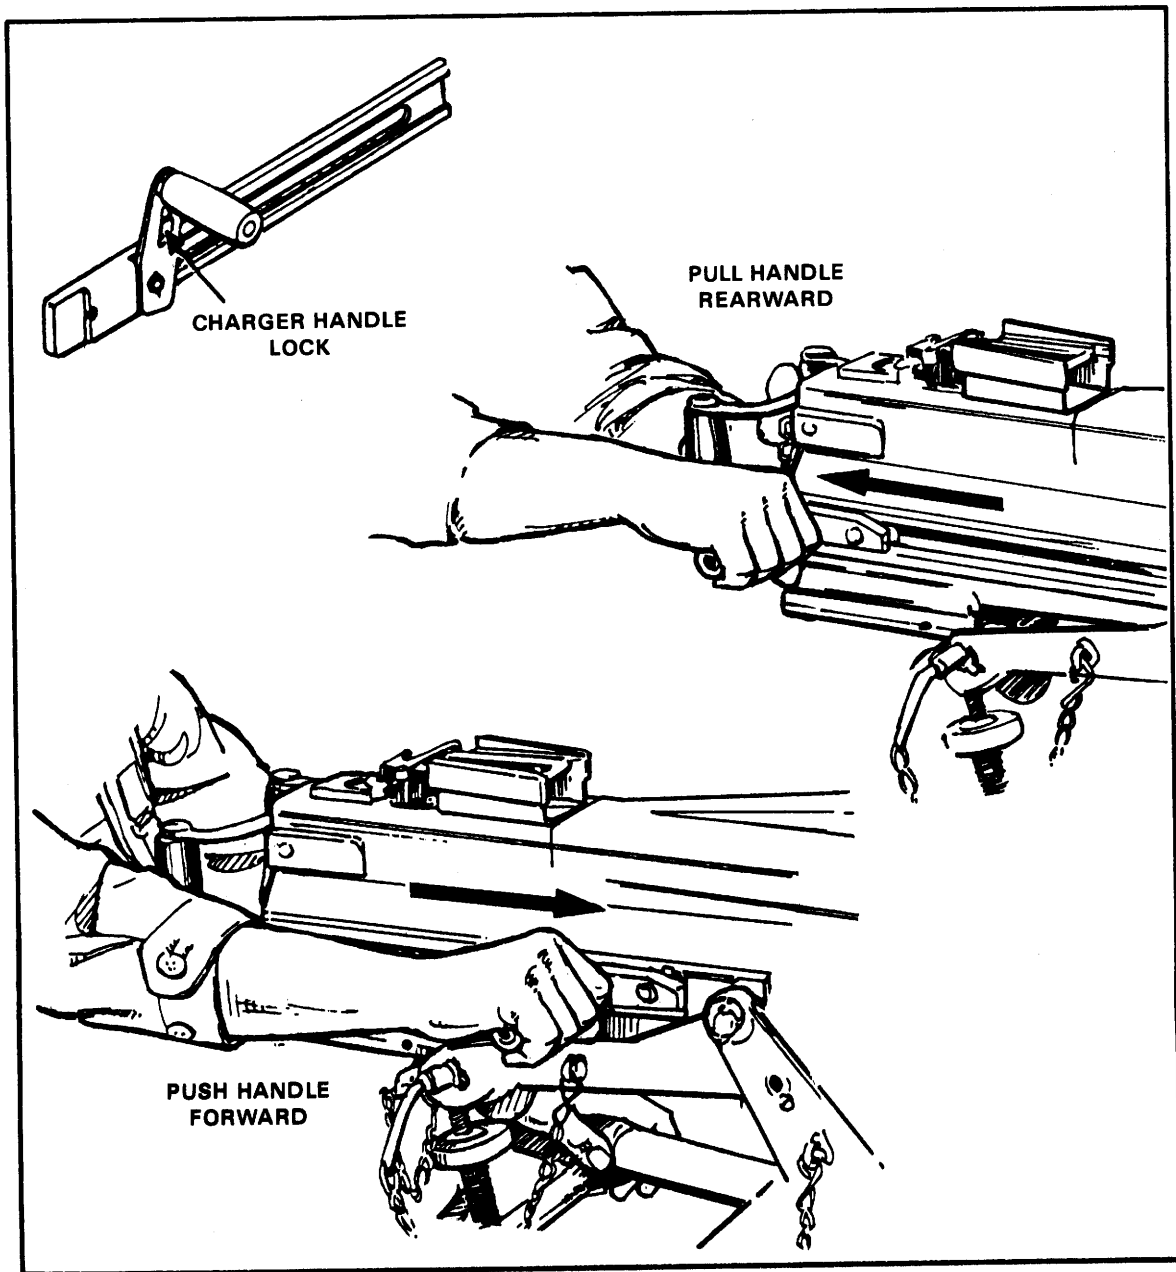
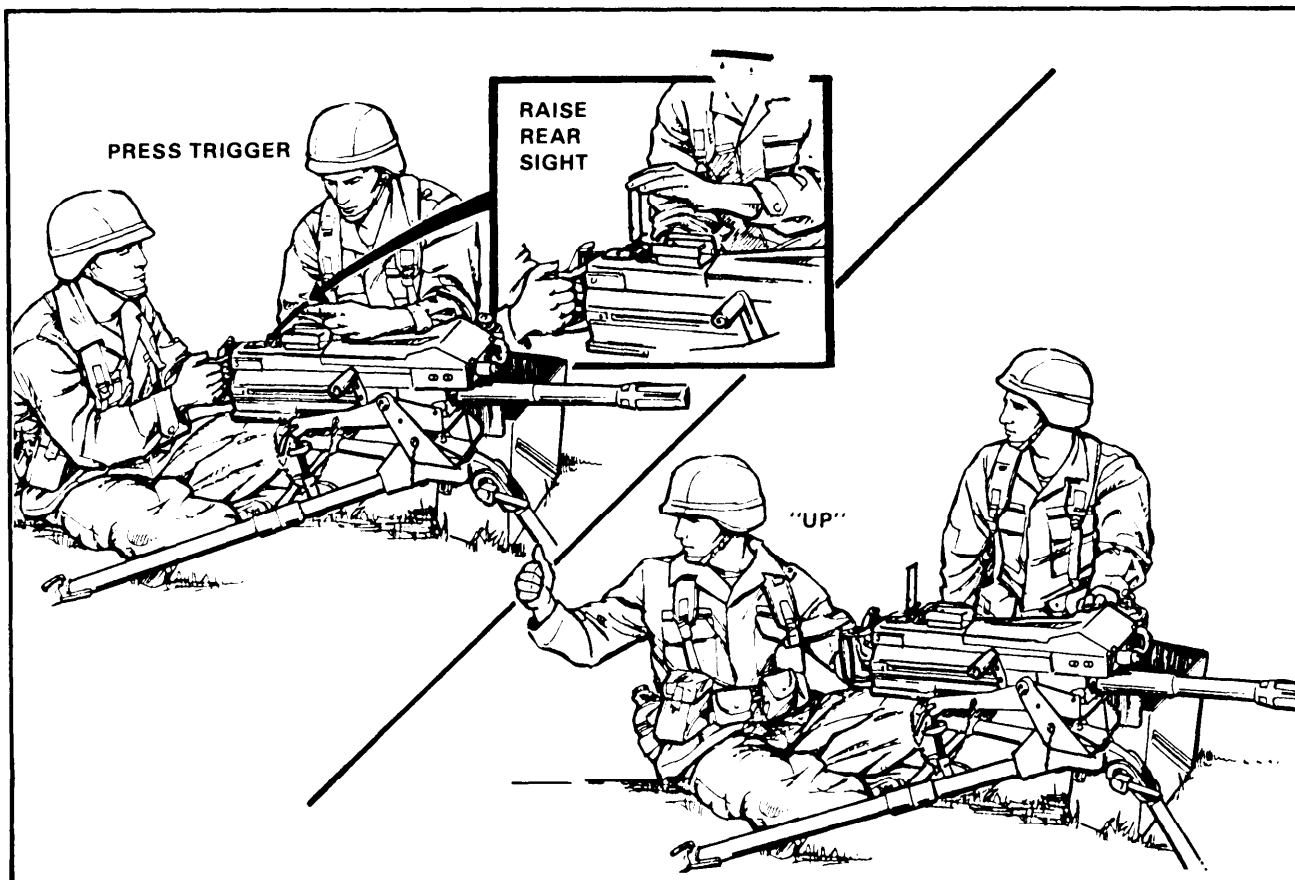

Figure 4-12. Gunner charging the MK 19.
Figure 4-13. Raising the rear sight.
(5) The gunner closes the top cover and charges the weapon (Figure 4-12). The gunner presses the trigger, which places the lead round in the bolt extractor. He charges the weapon a second time, forcing the lead round from the bolt extractors into the bolt fingers. The weapon is ready to fire. When the assistant gunner raises the rear sight, the gunner calls UP (Figure 4-13).